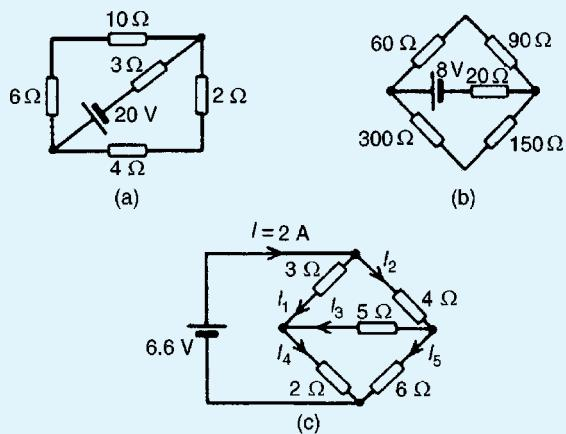

Figure 13.15
5. Find the current flowing in the 3Ω resistor for the network shown in Fig. 13.15(a). Find also the p.d. across the 10Ω and 2Ω resistors.
6. For the network shown in Fig. 13.15(b) find: (a) the current in the battery, (b) the current in the 300Ω resistor, (c) the current in the 90Ω resistor, and (d) the power dissipated in the 150Ω resistor.
7. For the bridge network shown in Fig. 13.15(c), find the currents I_1 to I_5